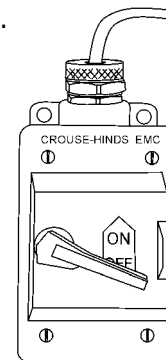

Figure 21. Power ON/OFF Switch (OFF)
- Place the power ON/OFF switch (Figure 21) in the OFF position (down).